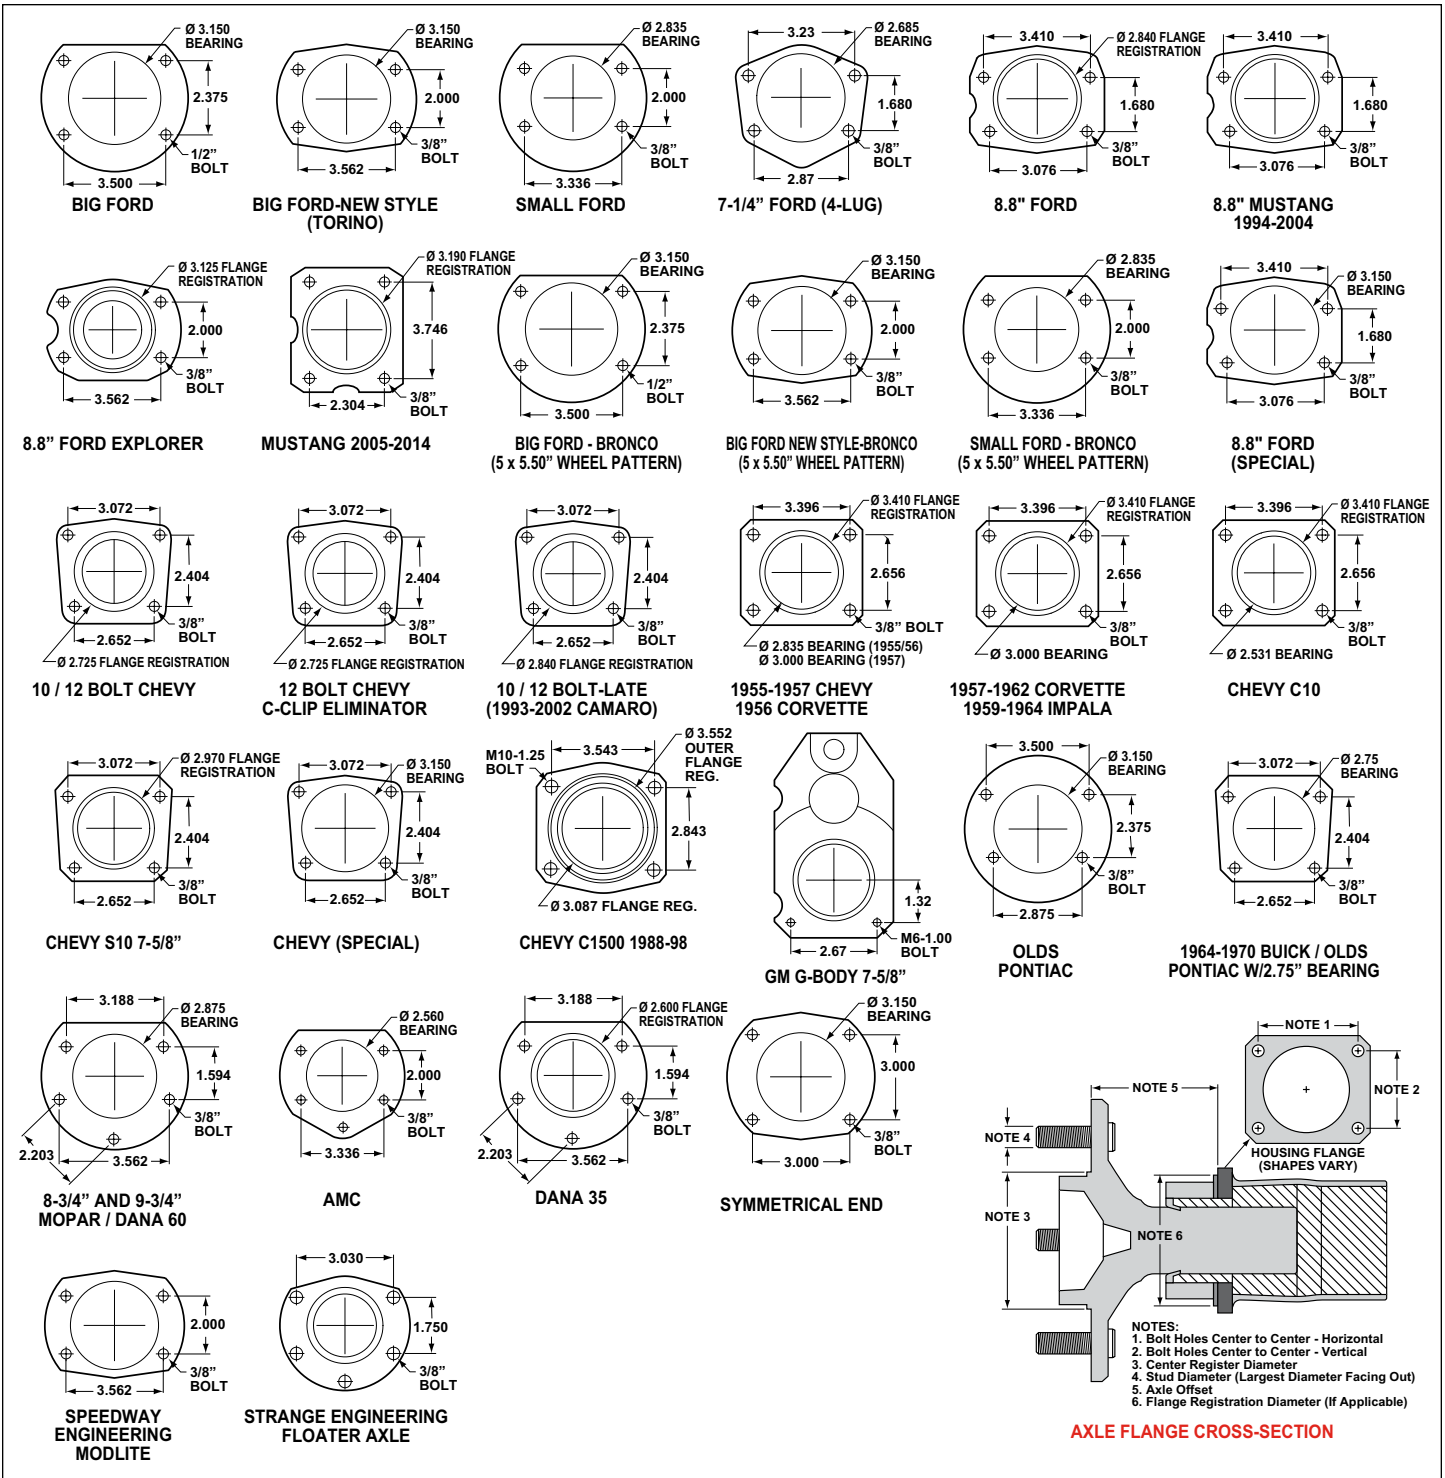

Figure 6. Rear Housing Flange Chart and Axle Flange / Offset Cross-Section
•Make sure this is the correct kit to fit the axle housing flange, not necessarily the rear end make. Many times aftermarket manufacturers put a different make of axle housing flange on the stock rear end housing (Figure 6). Example; Big Ford rear ends with Olds-Pontiac flanges, therefore, an Olds-Pontiac rear disc brake kit would be the correct kit to order. Also, shock clearance may be a problem. They may have to be modified and/or relocated to clear the Wilwood kit after final assembly.
- Dimension from wheel side of axle flange to wheel side of axle housing flange (see Figure 6, lower right hand corner). This dimension is critical to ensure proper alignment of the rotor to the caliper, and should match offset given in the kit description.